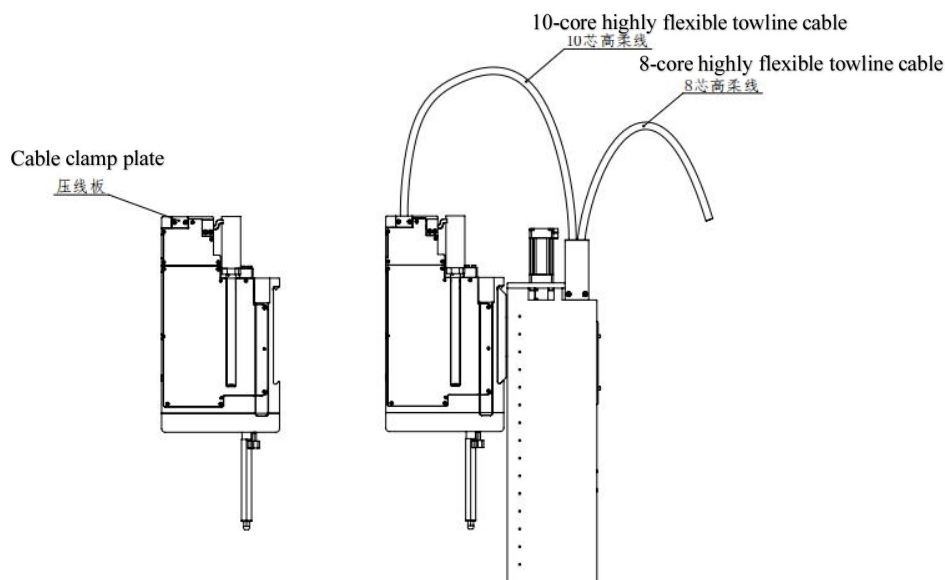
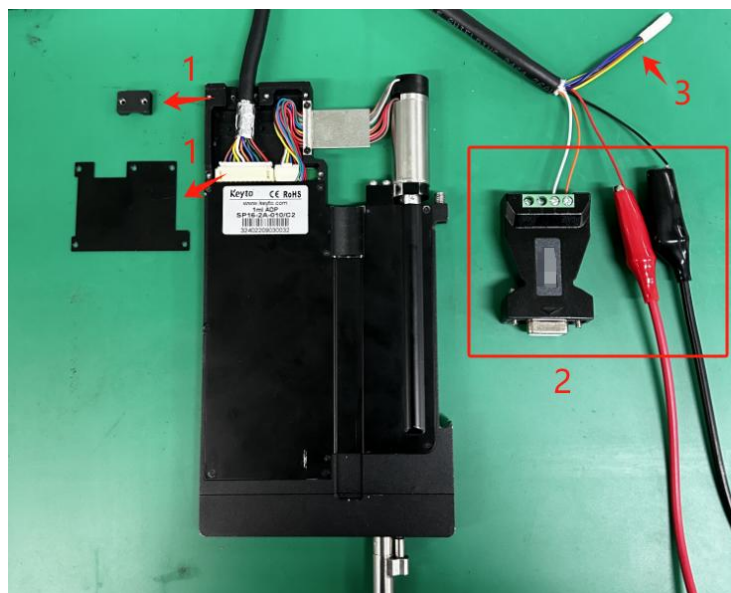

Figure 4-1 Pipettor Installation Diagram
Figure 4-2 Single SP16 cable connecting Diagram
Install the pipettor on the Axis-Z or vertical plane as shown in Figure 4-1. For standalone SP16 use, connect using the 10-core highly flexible towline cable as Table 4-1 and Figure 4-2. When used with the Keyto Axis-Z, insert the Axis-Z 10-core cable into the pipettor and connect the Axis-Z 8-core cable as Table 4-1. The relevant accessories are already configured at the factory.
2. According to **Figure 4-2 Single SP16 cable connecting Diagram**, remove the cable clamp and cover (marked 1) and connect the cables.
4. Insulate unused cores as shown in **Figure 4-2 Single SP16 cable connecting Diagram** (marked 3).